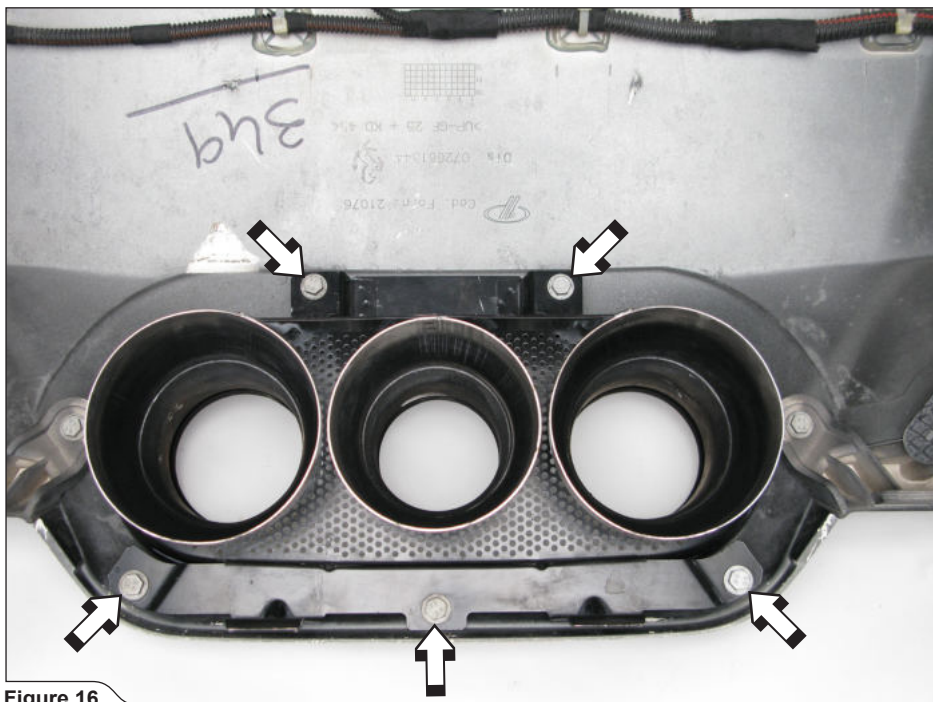

Figure 16
14. **For Slip-On and optional Link Pipes:** unscrew marked bolts and remove the original tail pipes off the rear bumper (**Figure 16**).